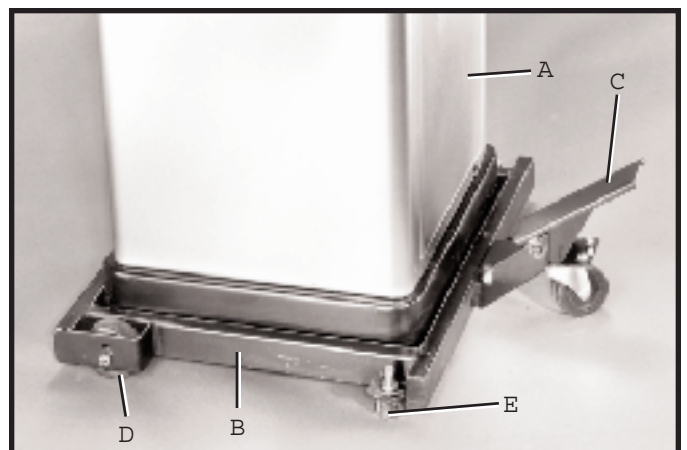

Fig. 13
IMPORTANT: Before assembling the band saw to the stand, we suggest that you place the stand (A) Fig. 13, onto the mobile base (B), with the foot pedal lever (C) in the raised position as shown, so the wheels (D) and rubber feet (E) are in full contact with the floor surface.